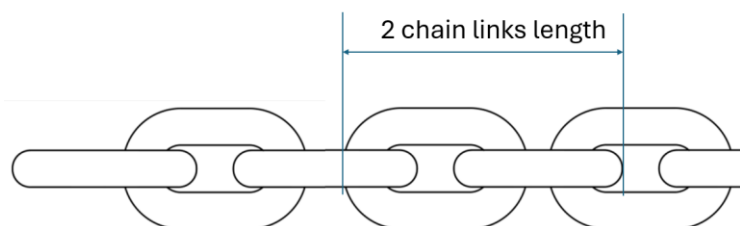

Figure 13 The length of two chain links
- **Braking distance:** During the lowering process, when the brake is engaged under the nominal load, the load must come to a complete stop within a braking distance of less than approximately two chain link lengths (figure 13). Any distance within this threshold is considered normal.